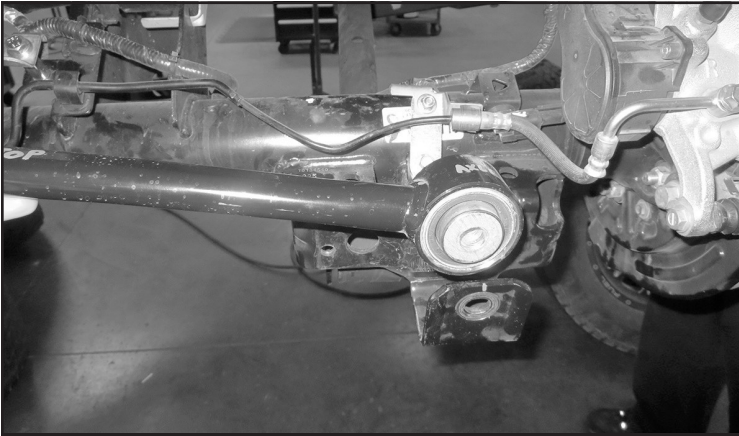

FIGURE 1 - STEP 2
2. Supporting the rear axle. Disconnect the rear track bar from the axle mount. Save hardware. **SEE FIGURE 1**